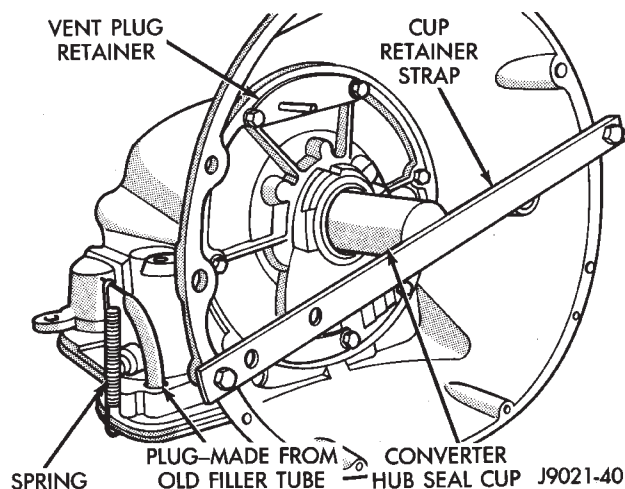

Fig. 15 Vent Plug And Hub Seal Cup Installation
(1) Install vent plug, converter hub seal cup and cup retaining strap (Fig. 15).